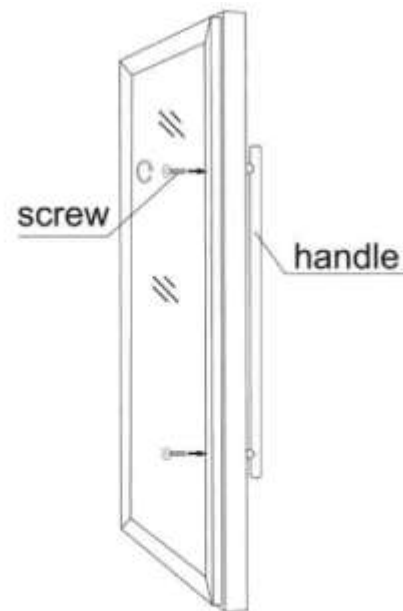

Figure 5
2. Tighten the screws from inside of the door frame to secure the handle. (See figure 5)